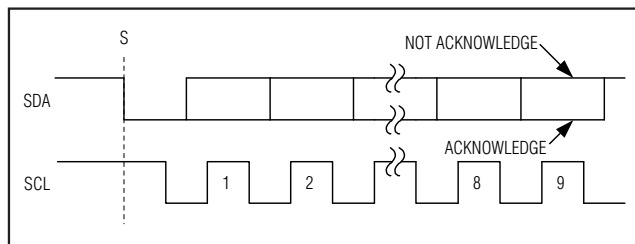

Figure 6. Acknowledge Bits
Data transfers are acknowledged with an acknowledge bit (A) or a not-acknowledge bit (\bar{A}). Both the master and the MAX11612-MAX11617 (slave) generate acknowledge bits. To generate an acknowledge, the receiving device must pull SDA low before the rising edge of the acknowledge-related clock pulse (ninth pulse) and keep it low during the high period of the clock pulse (Figure 6). To generate a not-acknowledge, the receiver allows SDA to be pulled high before the rising edge of the acknowledge-related clock pulse and leaves SDA high during the high period of the clock pulse. Monitoring the acknowledge bits allows for detection of unsuccessful data transfers. An unsuccessful data transfer happens if a receiving device is busy or if a system fault has occurred. In the event of an unsuccessful data transfer, the bus master should reattempt communication at a later time.